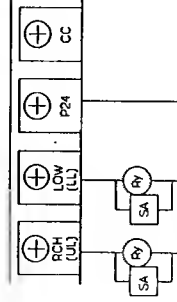
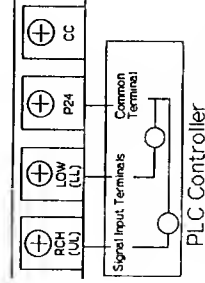

Figure 10.1 Example of a Speed-Reached Signal with External Relay
Figure 10.2 Example of a Speed-Reached Signal with a Programmable Logic Controller
The "speed reached-signal connection" example using a relay is shown in Figure 10.1. The "speed reached signal connection" example using a programmable controller is shown in Figure 10.2. Toshiba strongly recommends the use of a surge absorption device (SA) around the coil of external output relays.